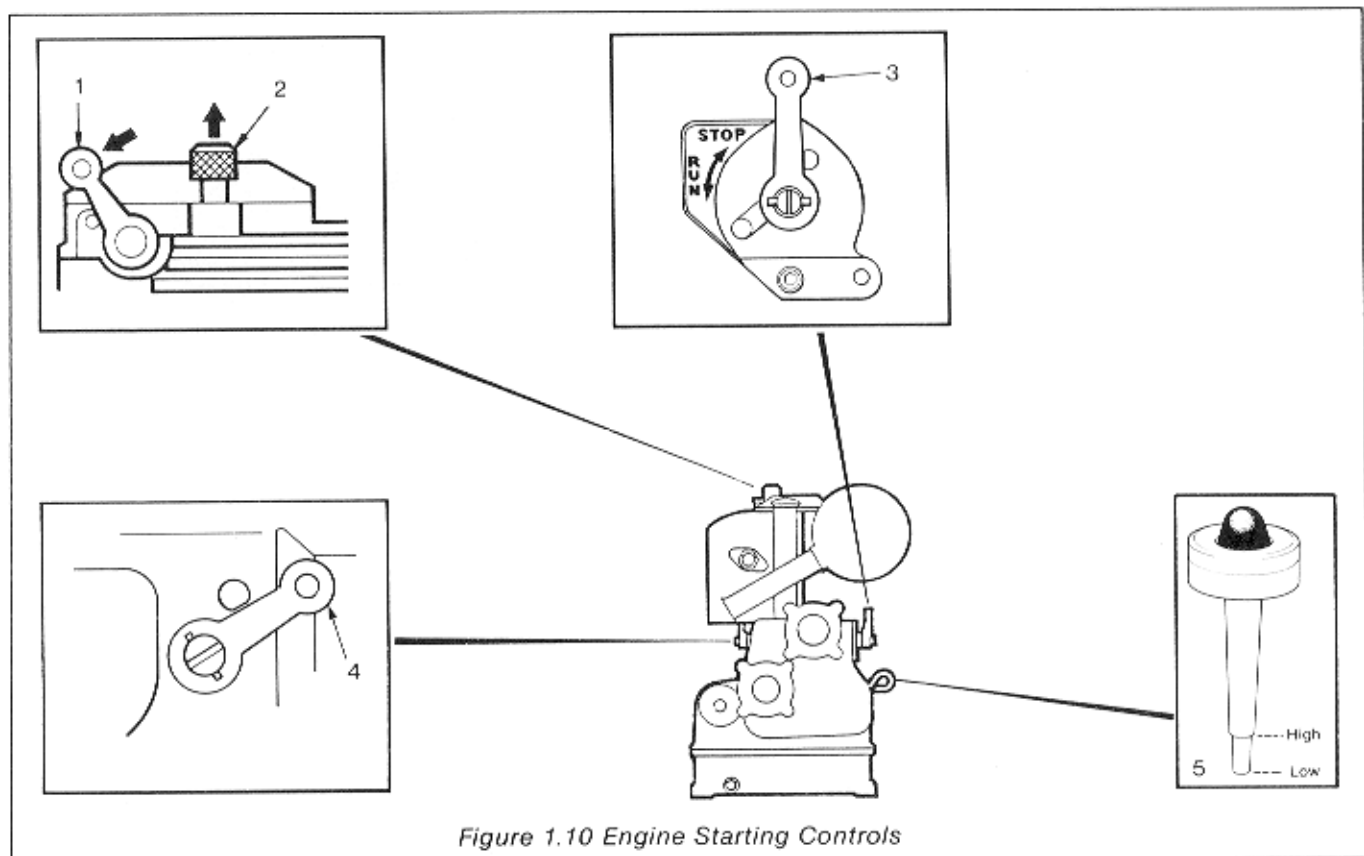

Figure 1.10 Engine Starting Controls
**NEW OR OVERHAULED ENGINE Preparation for Starting (Figure 1.10)**
#### Normal Start (Figure 1.10)
## Cold Starting (Figure 1.10)